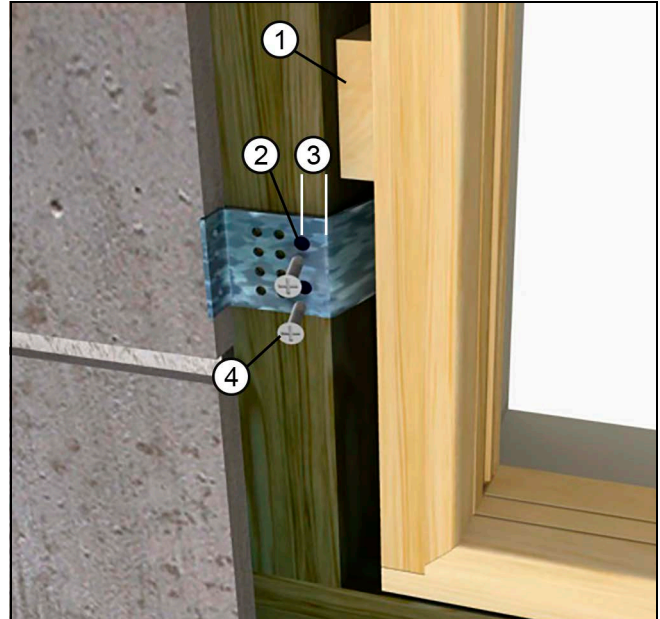

Figure 9
2. When using structural and mull brackets, bend brackets against wood framing as shown in Figure 9. Attach structural brackets to wood framing with two #8 x 1 5/8" screws per tab, making sure that the screws are no more than 1/4" (6) from the bend in the bracket (edge of the wood buck). Angle the screws approximately 15 degrees toward the thicker part of the framing member.